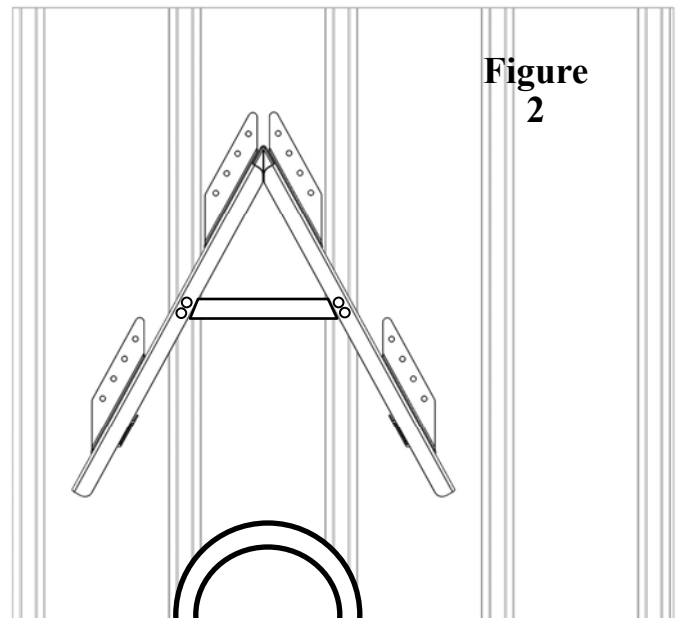

Figure 2
3. Place the divider on the roof directly centered above the chimney. Regardless of the location of the corrugated ribs of the metal roof, the divider **MUST BE CENTERED** above the chimney. (Figures 2&3) The divider should be relatively close to the chimney to protect it from sliding snow. If you are installing the optional chimney brace kit (SDBK) you need to have the divider close enough so that the arms of the bracket will reach.